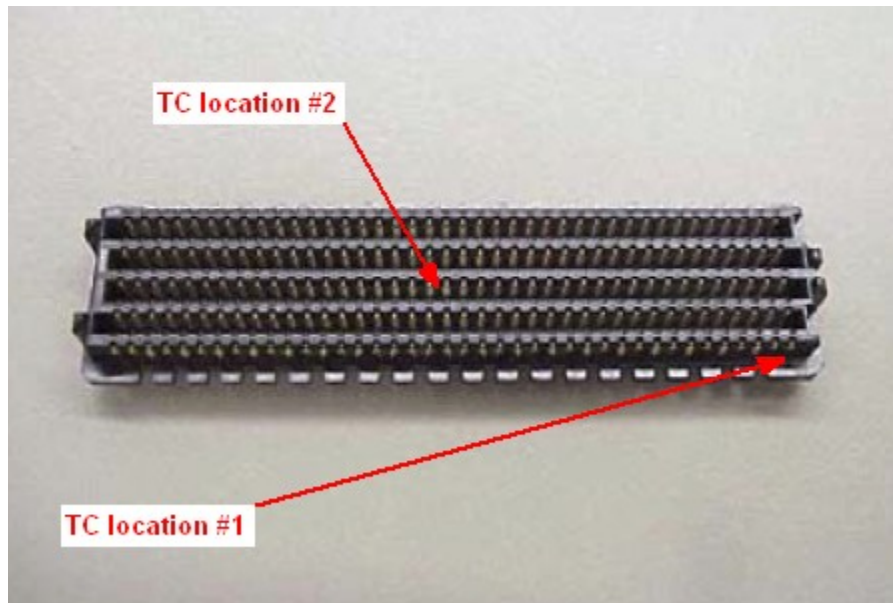

Fig. 6. Top side reference of thermocouple locations for reflow profiling. 做回流条件时热电偶放置参考位置。
- The importance of properly profiling the fully populated printed circuit assembly cannot be understated. The reflow process that forms the solder joint is sometimes overshadowed by other processes but is critical to ensuring the solder charge reaches proper reflow conditions. Certain components can be sensitive to time and temperature, so both variables must be controlled and a thermal profile must be performed prior to processing or production. Thermocouples should be placed as close to the solder charge as possible (**underneath the part**) in the center and on the outside edge (see **Fig. 6**). 不管怎样强调回流条件的重要性都不算过份。有时回流过程重要性被其它制程所影响，但是保证 Solder Charge 达到适当的回流条件是极其重要的。一些器件对于温度和时间特别敏感，因此在回流和生产前这两个变量必须受控制和做出温度曲线。热电偶探头应放置在连接器下方中心和边缘并尽量接近 Solder Charge。 (如 **Fig. 6** 所示)